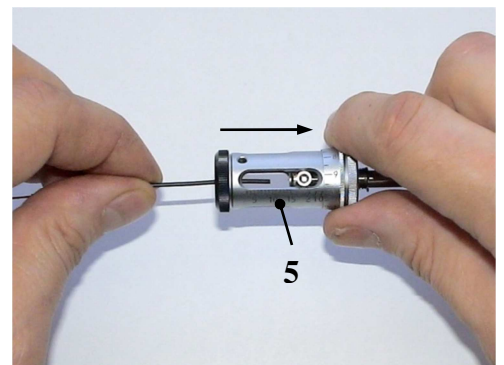

Fig. 8 Insert wire to desired length
- Pull the stripping head (5) backwards and insert the cable up to the desired length using the scale. Holding this position, slowly release the stripping head (5). (Fig. 8).